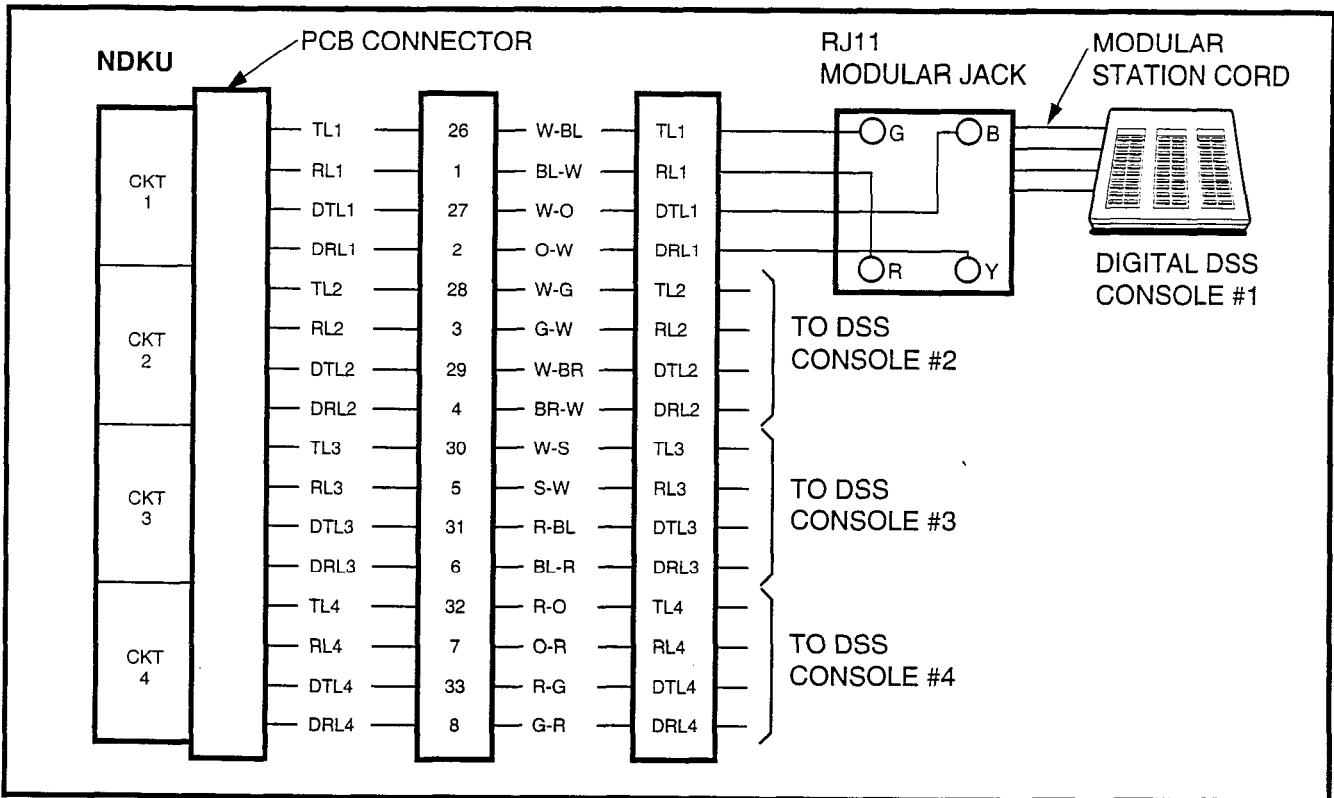

FIGURE 4-49—DIGITAL DSS CONSOLE CONNECTION FOR PERCEPTION_e "C" SLOT
6.84 DSS console(s) connection details are shown in Figures 4-49 and 4-50, for both PERCEPTION_e and _{ex}.